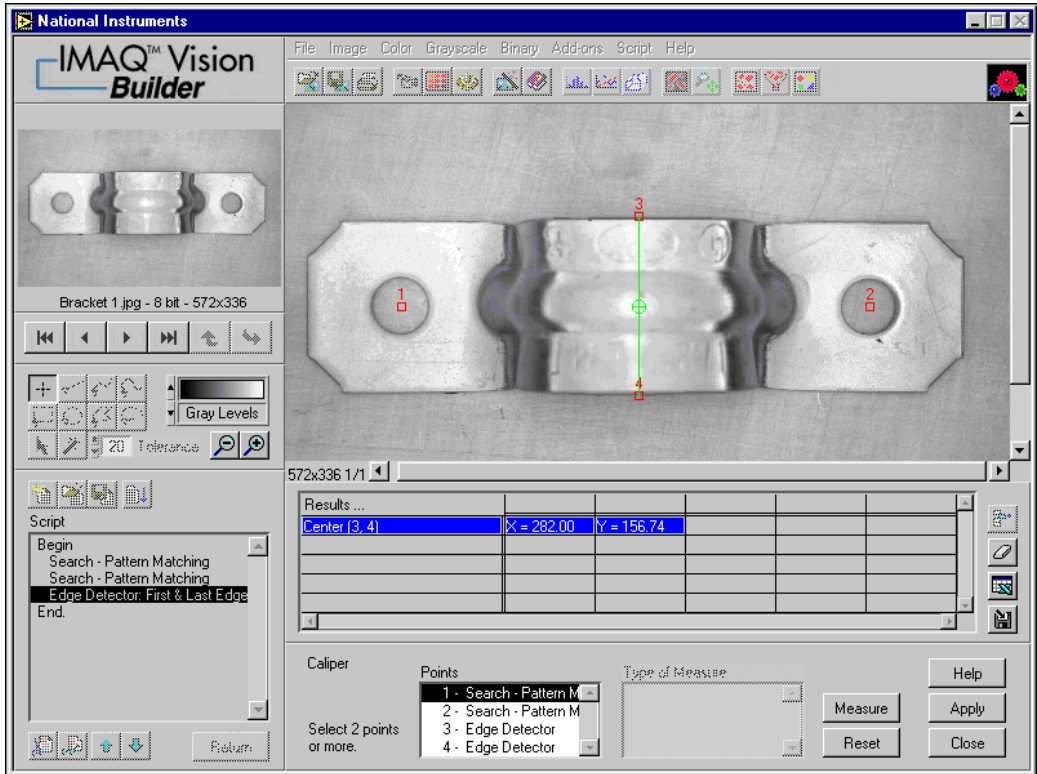

Figure 4-6. Using the Caliper Function to Find Width Center
4. Click the **Measure** button to compute the center of the bracket's width and add the Width Center measurement to the results table, as shown in Figure 4-6.